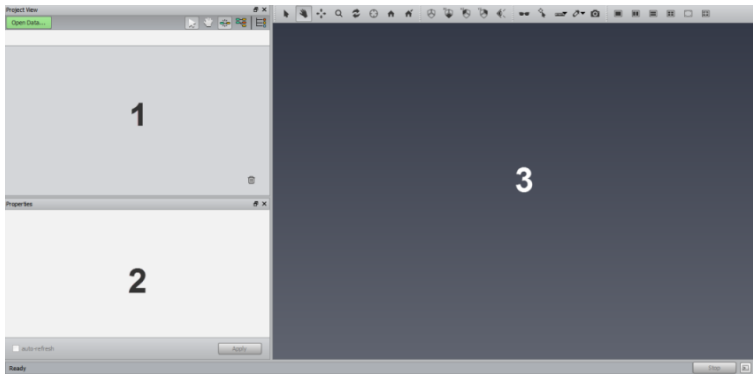

Figure 13.59: Avizo user interface
Avizo user interface is divided into three major regions: The Project View (1) contains folders where data and modules will appear. The Properties area (2) displays interface elements (ports) associated with Avizo objects. The 3D viewer window (3) displays visualization results (see Figure 13.59).